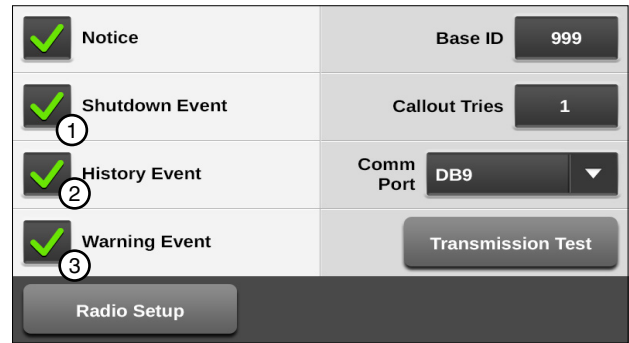

Figure 79-1 1. Shutdown Event 3. Warning Event
To enable or disable notification to the BaseStation for the listed Shutdown, History, or Warning events. Refer to Figure 79-1.
1. Push **Menu**, **Utilities**, and **Notice** to display the Notice screen. Refer to Figure 79-1.